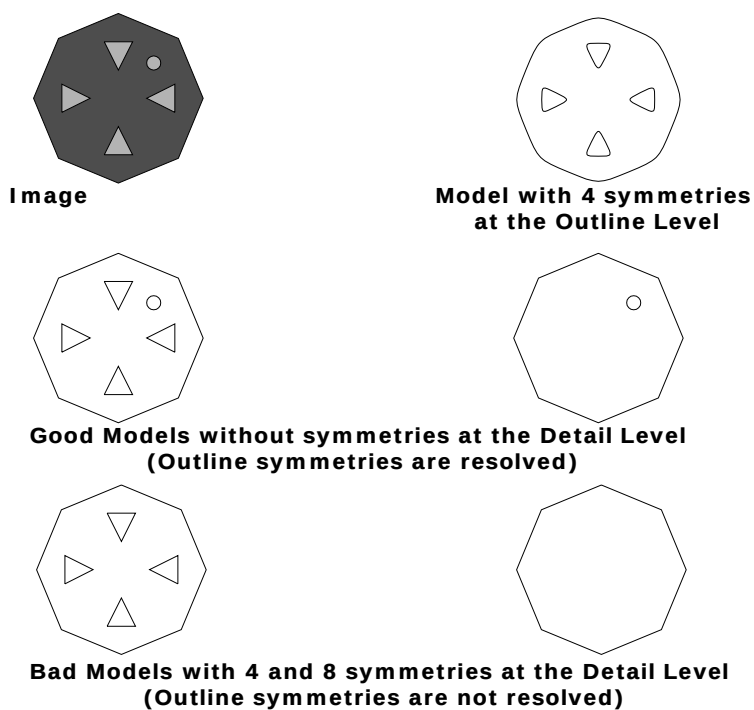
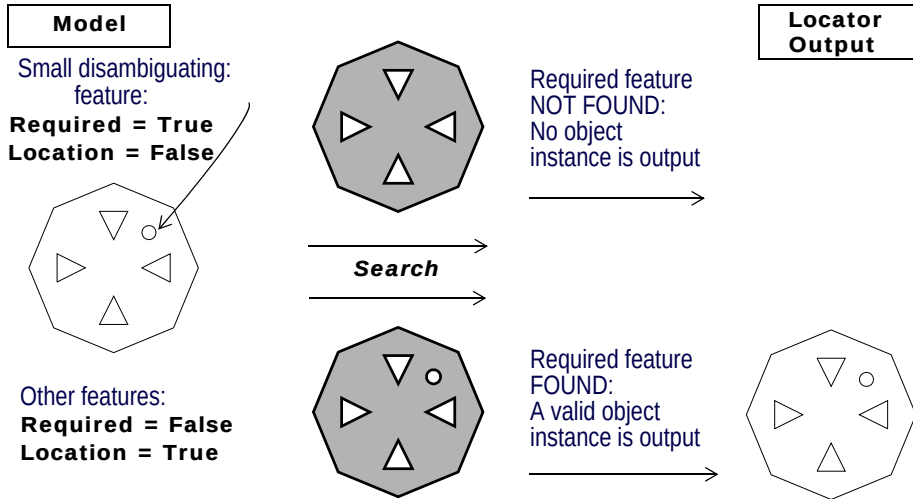

Figure 148 Good/Bad Model Examples built with Symmetrical Features
Figure 149 Effect of Assigning the Required Property to a Model Feature
- Although each feature may have rotational symmetries, the arrangement of these features should not have symmetries, as shown in the *Bad Models* example in Figure 148.
- For example, to properly recognize and locate the object illustrated in Figure 148, the feature properties could be set as shown in Figure 149. The small circle will be required to recognize the part. The other features will not be individually required to recognize the part, as long as the **Minimum Model Percentage** and **Minimum Required Features** criteria are met. If the small circle is slightly unstable in position, its **Location** property can be set to false. Therefore, to compute the pose of the part, the Locator will use all of the recognized features except the small circle.